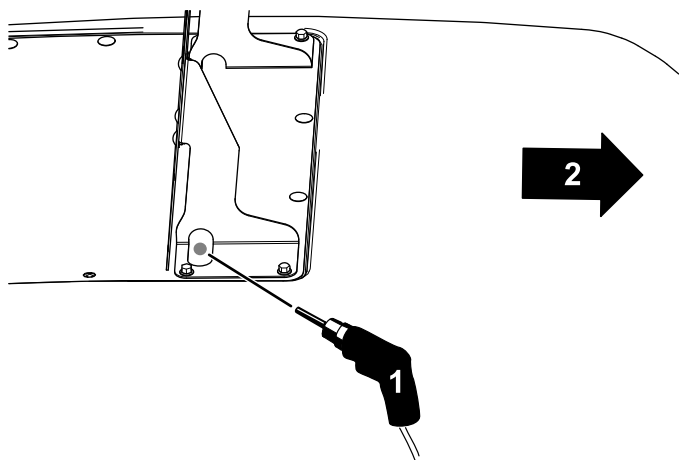

Figure 31
11. Drill a hole (1/2 inch) through the hood screen for routing the wire harness (Figure 31).